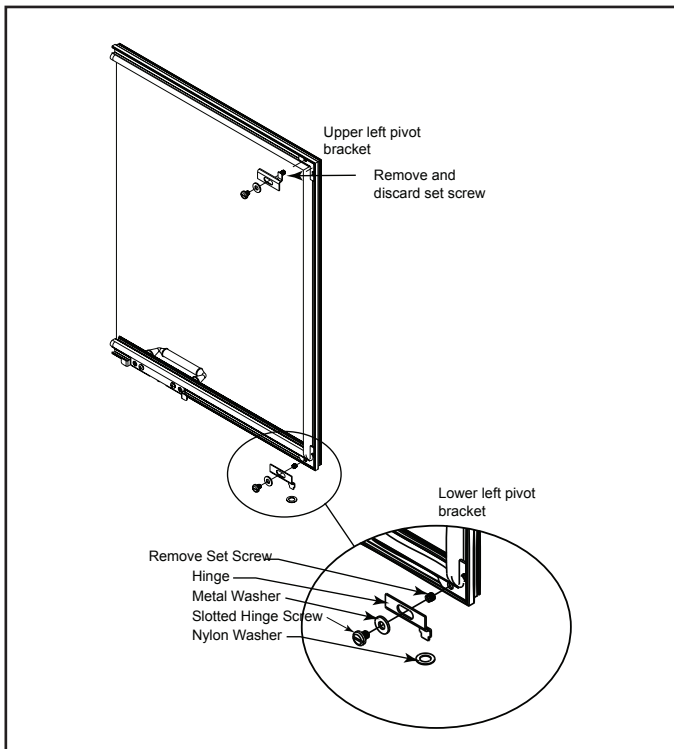

Figure 9
- Remove one set screw from top of top corner bracket and one from bottom of bottom corner bracket (see Figure 9). Discard the removed set screws.